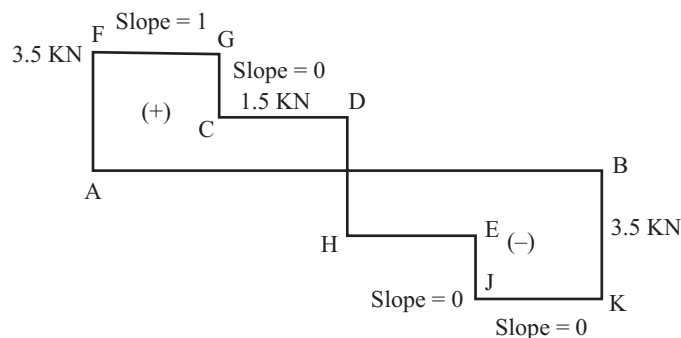

Fig 12.29
Q.22: The shear force diagram of simply supported beam is given below in the fig 12.29. Calculate the support reactions of the beam and also draw bending moment diagram of the beam. *(May-01(C.O.))*